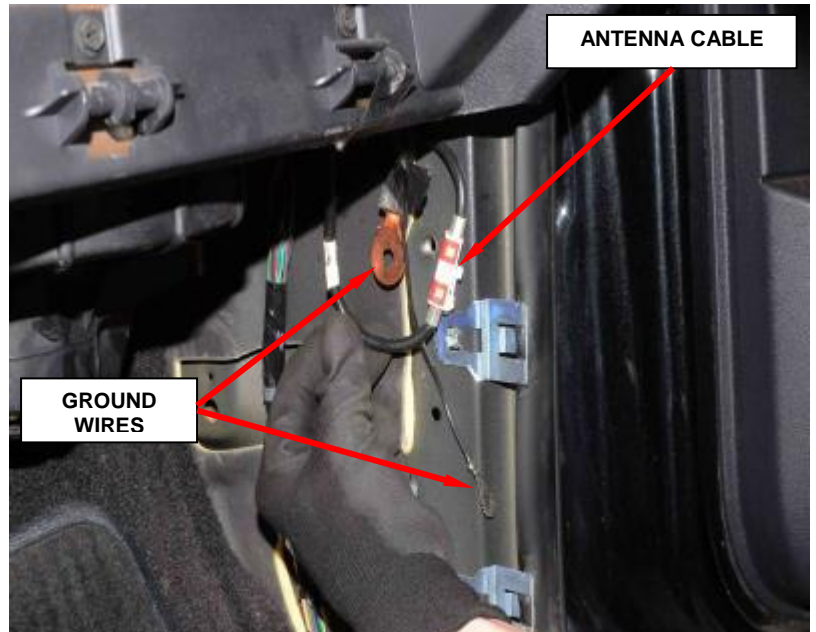
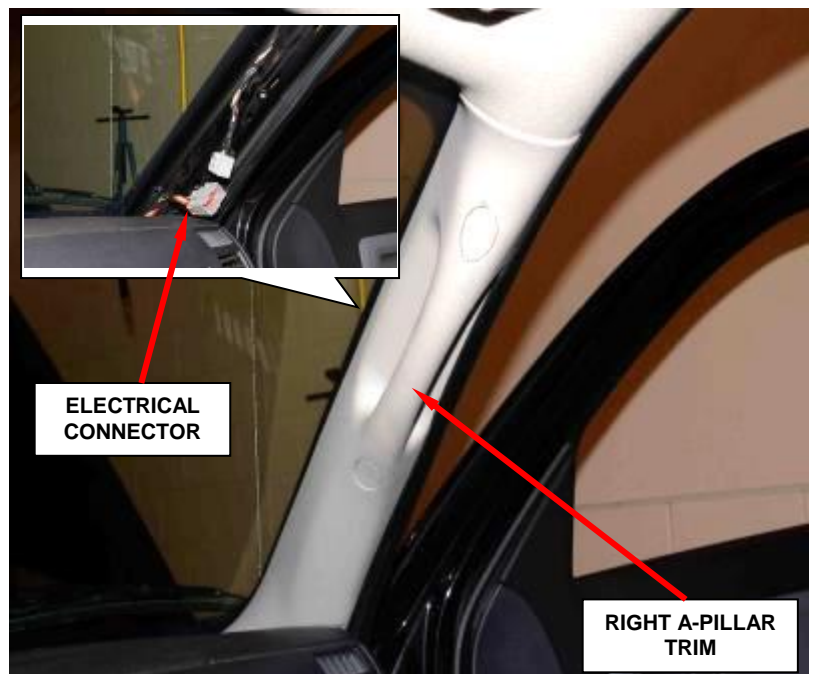

Figure 143 – Ground Bolt and Nut
Figure 144 – A-Pillar Trim (Right Side Shown)
26. Remove the bolt and nut and disconnect the grounds on the right A-pillar (Figure 143).
27. Disconnect the antenna cable (143).
28. Remove the right and left side A-pillar trim (Figure 144).
29. Disconnect the right side A-pillar electrical connector (Figure 144).